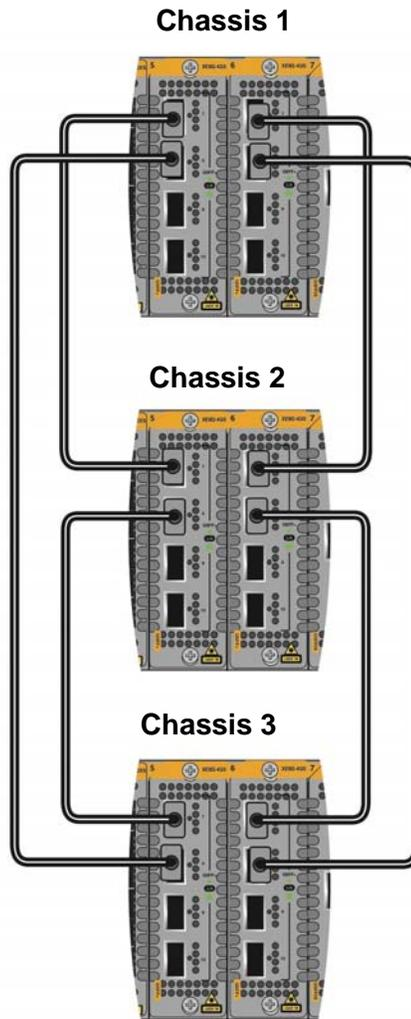

Figure 18. Example of a Stack Trunk of Ports on Multiple Line Cards
- ❑ You can further improve the resiliency of trunks by distributing the ports onto multiple cards in the switches. This makes it possible for trunks to continue functioning, though at reduced bandwidths, even if line cards with trunk ports fail. The example in Figure 18 is a stack of three switches with a trunk of two links from switch-to-switch, on different line cards.